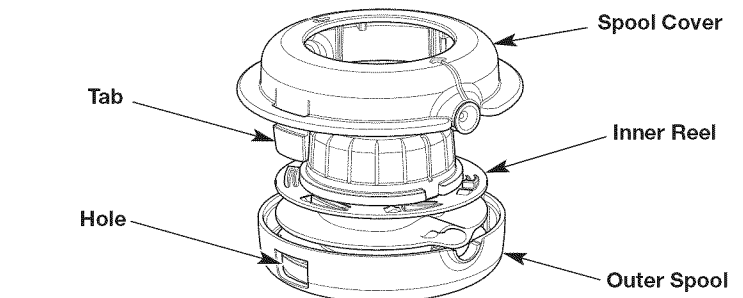

Fig. 10
1. Firmly press in the tabs on the cutting head (Fig. 10).
2. Remove the spool cover (Fig. 10).
4. Use a clean cloth to clean the inner reel, outer spool and spool cover (Fig. 10).
5. Align the tabs on the spool cover with the holes on the outer spool (Fig. 10). Push the spool cover onto the outer spool until the tabs securely snap into the holes.